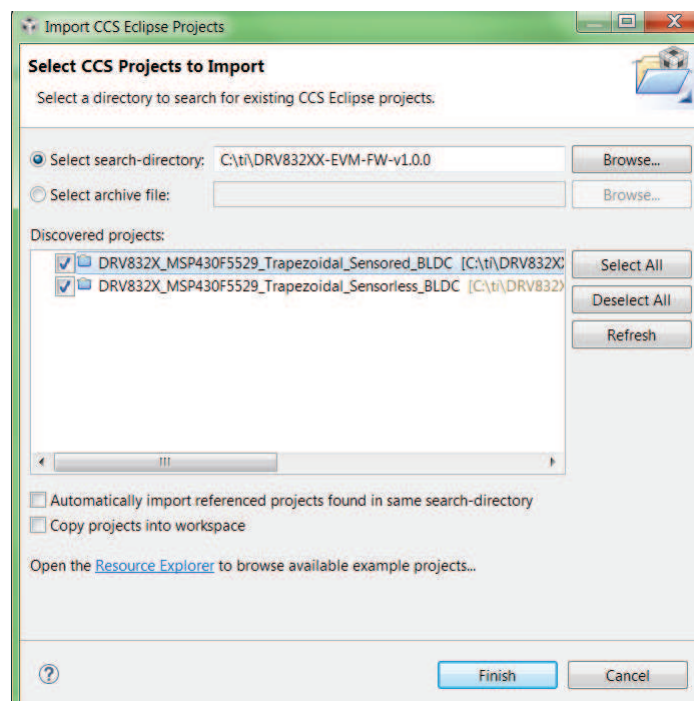

Figure 23. Selecting Existing Projects
- Step 5. In the new window that appears showing the import options, click the *Browse...* button and find the provided projects through the folder browser. These projects are located in the SDK installation directory. The example location is C:\ti\DRV835XX-V1.0 (see Figure 23). When selected, the provided project appears under *Discovered Projects*.
- Step 6. Make sure the correct box is checked and then click the *Finish* button (see Figure 23).